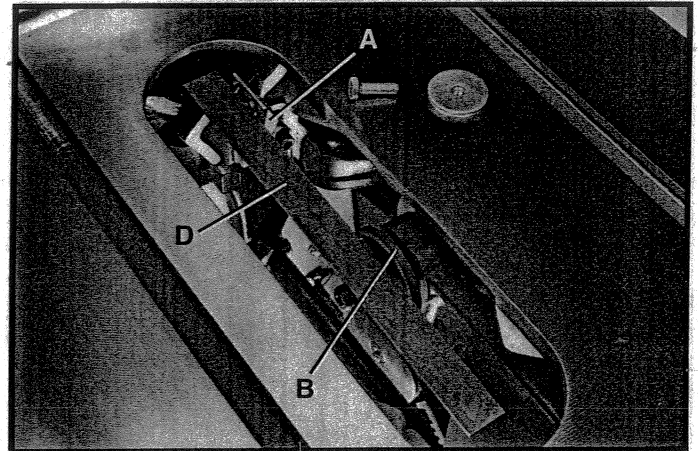

Fig. 35
3. Using a straight edge (D) Fig. 35, check to see if the splitter bracket (A) is aligned with the inside blade flange (B). Check both the top and bottom of bracket (A) with the top and bottom of flange (B).